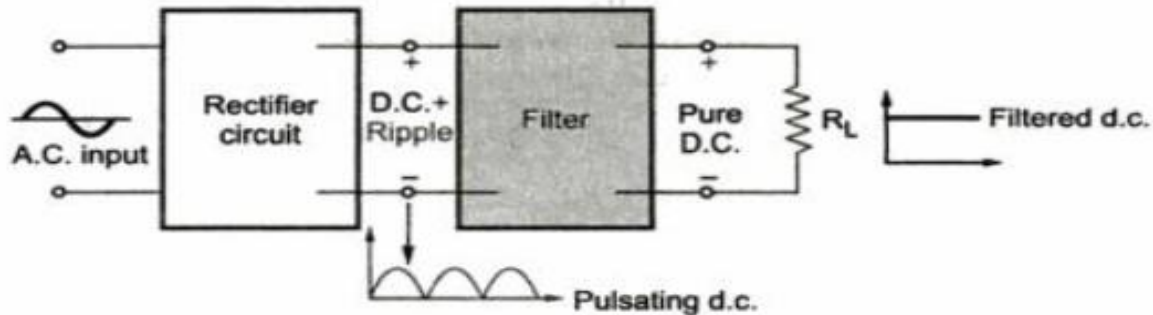

Fig. 2.7 Rectifier and filter
- These circuits are connected between the rectifier and load as shown in the Fig. 2.7.